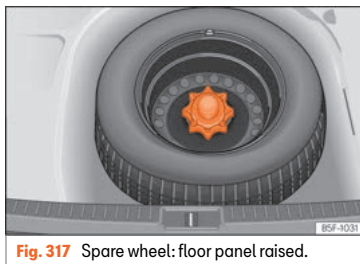

Fig. 317 Spare wheel: floor panel raised.
- Lift and hold up the floor panel to take out the temporary spare wheel  **Fig. 317**.